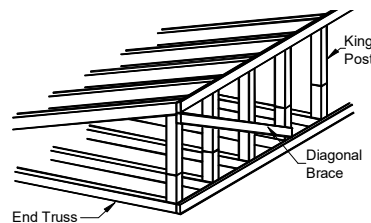

Figure 22. *Typical Diagonal bracing. Also, see hinged roof truss installation addendum.*
5. **Install Bracing.** Install diagonal bracing at both ends of each home section from the top of the gable end truss approximately 45 degrees downward. Keep trusses plumb and secure the brace with two (2) 7/16" x 2-1/2" x 15 ga minimum staples per truss (**Figure 22**).